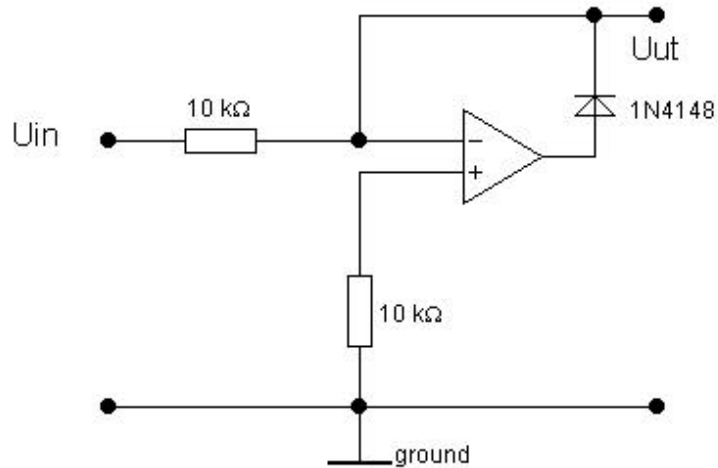

Figure 4.7
- a) Connect the circuit of Figure 4.7.